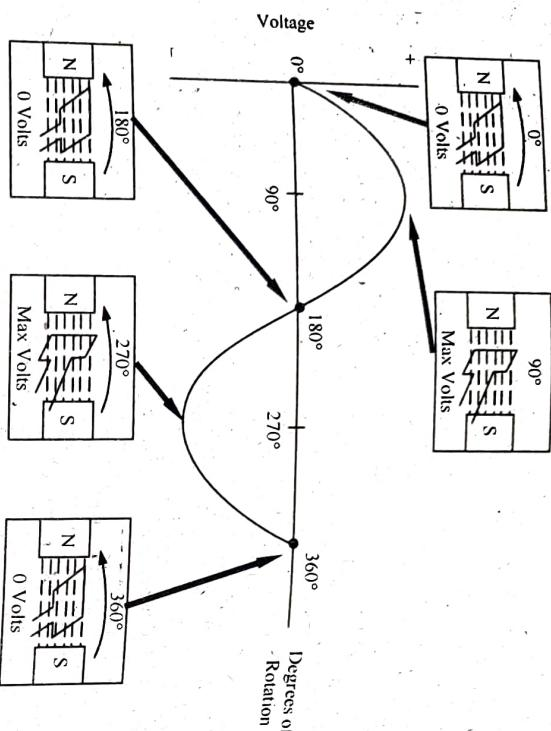

Fig: 2 Developing a Sine-Wave Voltage
At the instant the loop is in the vertical position (Figure 2, 0°), the coil sides are moving parallel to the field and do not cut magnetic lines of force. In this instant, there is no voltage induced in the loop.
The voltage and hence current continues to increase until it reaches a maximum value when the coil is perpendicular to the magnetic lines of force (Figure 2, 90°) and is cutting the greatest number of magnetic lines of force.
As the coil continues to turn, the voltage and current induced decrease until they reach zero, where the coil is again in the horizontal position (Figure 2, 180°).
In the other half revolution, an equal voltage is produced except that the polarity is reversed (Figure 2, 270°, 360°). The current flow through R is in the opposite direction. The periodic reversal of polarity results in the generation of a voltage, as shown in Figure 2. The rotation of the coil through 360° results in an AC sine wave output.
- The output voltage of an AC generator is sinusoidal in nature, as depicted in the figure 2. It can be expressed mathematically as